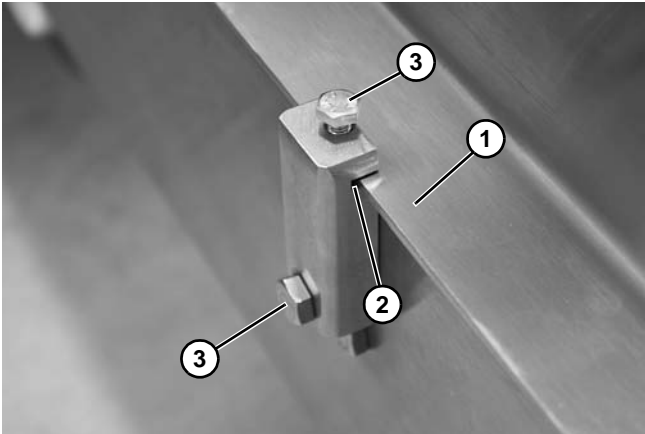

Figure 34
3. Install guide (**Figure 34, item 1**) into the slot (**Figure 34, item 2**) of the mounting block and tighten screws (**Figure 34, item 3**).